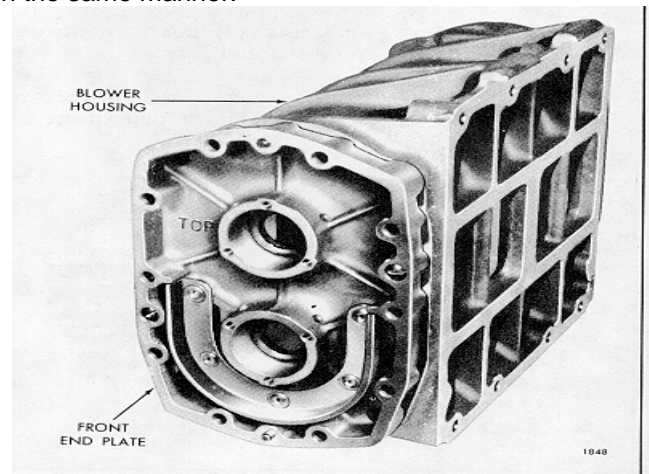

Fig. 17 - Position of Blower Front End Plate on Housing
1. Install the blower front end plate, making sure the mark TOP on the outer ribbed side is at the top of the blower housing, identified by the flange which supports the housing on the top edge of the cylinder block (Fig. 17).